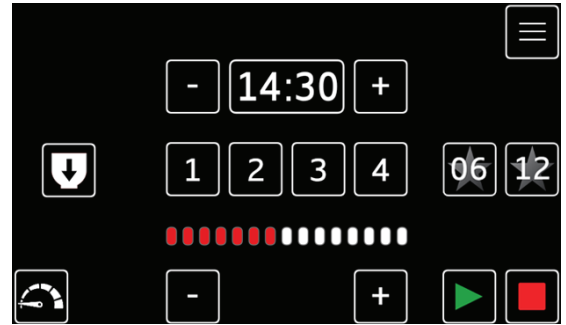

Figure 11-1.
1. Select the “-” or “+” symbols to decrease or increase the mixing time (Figure 11-1).